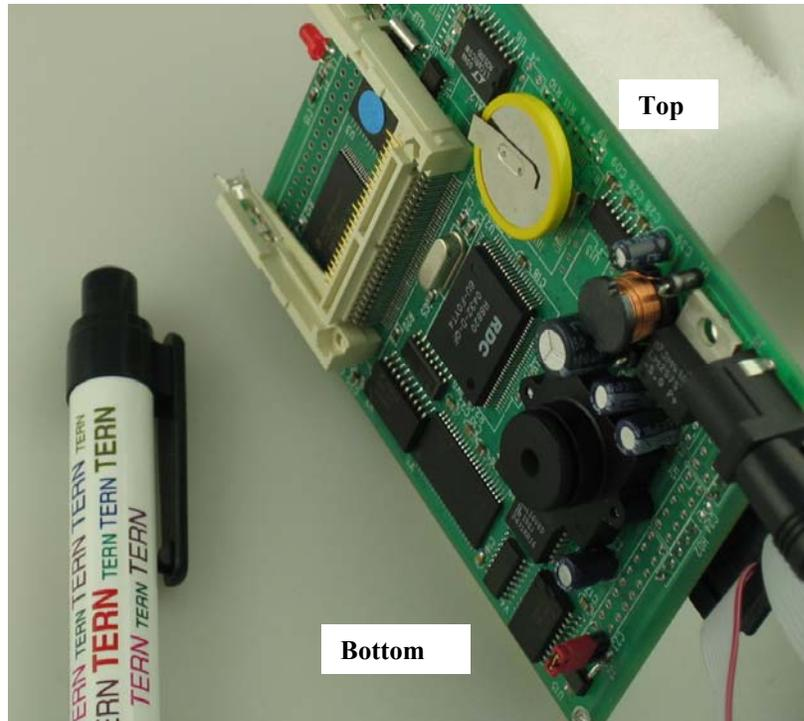

Figure 2.5: Upright picture position
6. To take a picture upright, position the *EyeC*TM as shown in Figure 2.5.
6. To take a picture upright, position the *EyeC™* as shown in Figure 2.5.